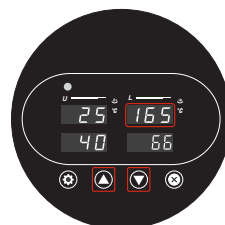

Fig. 4
4. Press Up ▲ or Down ▼ buttons to select the desired temperature (Fig. 4). The selected temperature is flashing on the display.